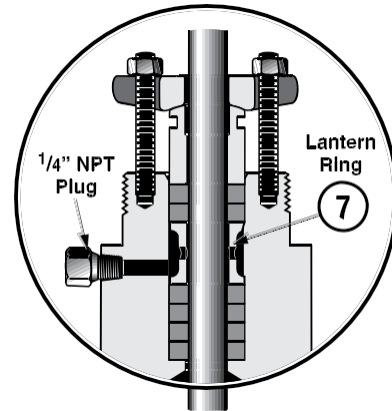

Figure 4 - Lubricator Connection (Option)
- J. If a leak detection connection was installed, connect it on the lateral NPT port in the bonnet. If not, ensure that the 1/4" NPT plug remained in place (Figure 4).